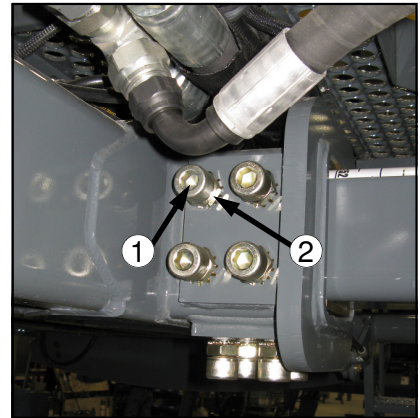

FIG 7.19-1
HYDRAULIC TREAD ADJUST UNITS– With the engine turned off, visually inspect the tread bearing bolts on both the bottom and side tread adjust bearing plates (fig. 7.19-1) every 50 hours. Torque check them every 100 hours.
1. Loosen the jam nut (fig. 7.19-1, item 2) on each tread adjust bearing bolt.